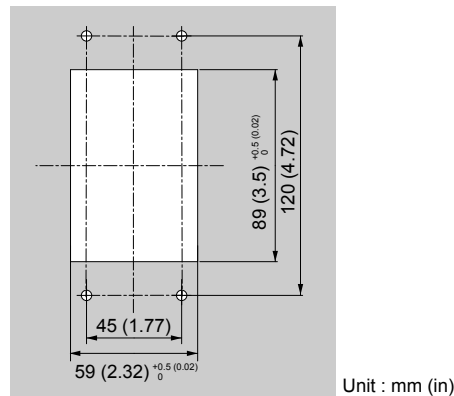

Figure 2.9 Panel Cut-Out Dimensions (Internal/Flush-Mount Installation)
1. Cut an opening in the enclosure panel for the HOA keypad as shown in Figure 2.9.